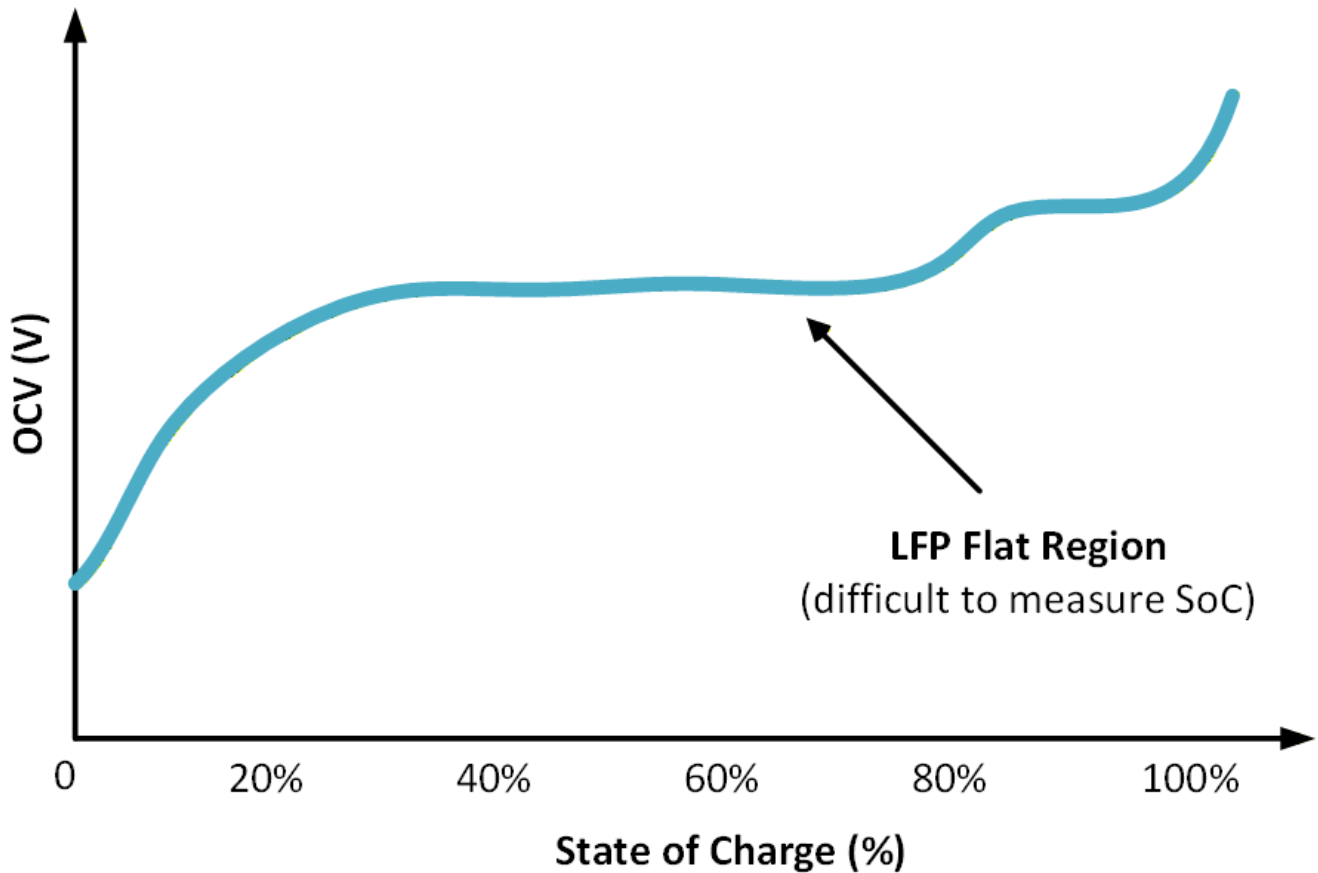

Figure 3-4. LFP Open Circuit Voltage Versus State-of-Charge Curve Showing Flat Region
- **DC voltage accuracy:** LFP cells show a very flat voltage versus state-of-charge curve between 30% and 90% (as shown in Figure 3-4), which makes traditional open-circuit voltage measurements inaccurate. EIS improves accuracy by providing a direct state-of-charge measurement, reducing worst-case errors from 5% or 10% to <2% and delivering a more usable charge.